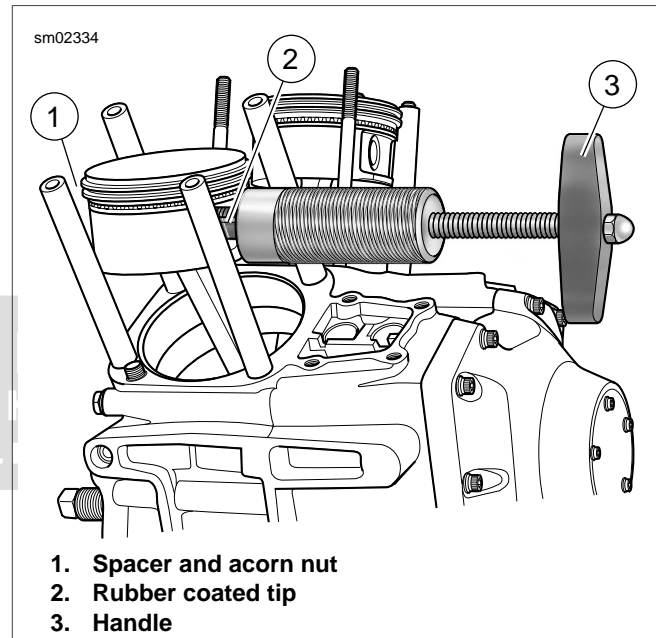

Figure 3-24. Piston Pin Remover (Part No. HD-42320-B)
3. See Figure 3-24. Remove the piston pin. If piston pin is difficult to remove, use PISTON PIN REMOVER (Part No. HD-42320-B).
- b. Slide rod end through piston pin. Install spacer and acorn nut (1) on end of rod.
- c. Position rubber-coated tips (2) of tool on flat each side of pin bore.
- d. Turn handle (3) in a clockwise direction until piston pin is pulled free of bore.